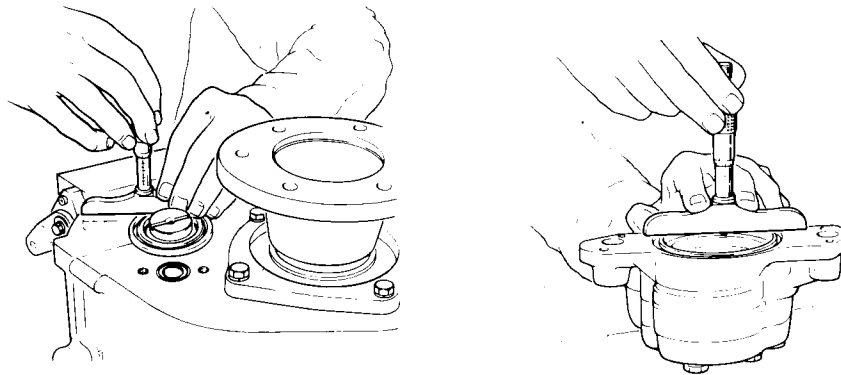

Fig.13. Shimming Procedure
1. Press the bearing outer cup firmly into position and measure between the face of the gearcase and the top of the bearing outer as shown in Fig. 13.